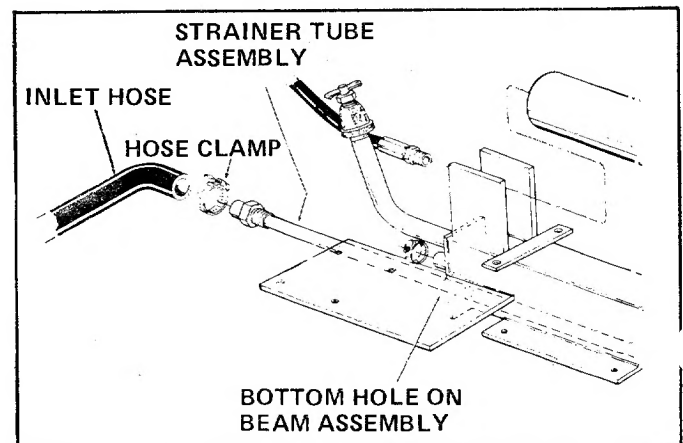

FIGURE 16
1. Remove the hose clamp at inlet hose (bottom hose on rear of beam). See figure 16.
2. Pull off inlet hose from strainer tube assembly and catch oil in a suitable container. See figure 16.
3. With an adjustable wrench remove the strainer tube assembly. See figure 16.